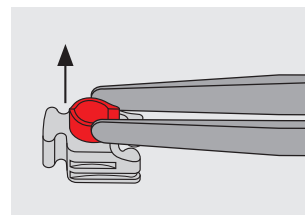

Fig. 1
**Note:** The Mini-SG® tuning female part is supplied with the yellow insert (= minimum friction). The other three inserts are enclosed. The friction inserts can only be replaced using tweezers (Fig. 1 / Order no. 070347)!
**Note:** The Mini-SG® tuning female part is supplied with the yellow insert (= minimum friction). The other three inserts are enclosed. The friction inserts can only be replaced using tweezers (Fig. 1)!